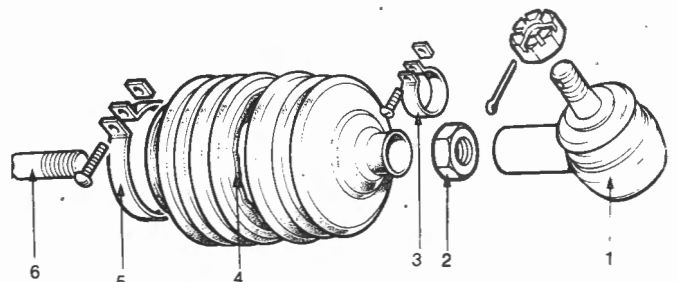

Fig. Q-2
- 2 Slacken the clips securing the rack boots to the tie-rods. Fig. Q-2.